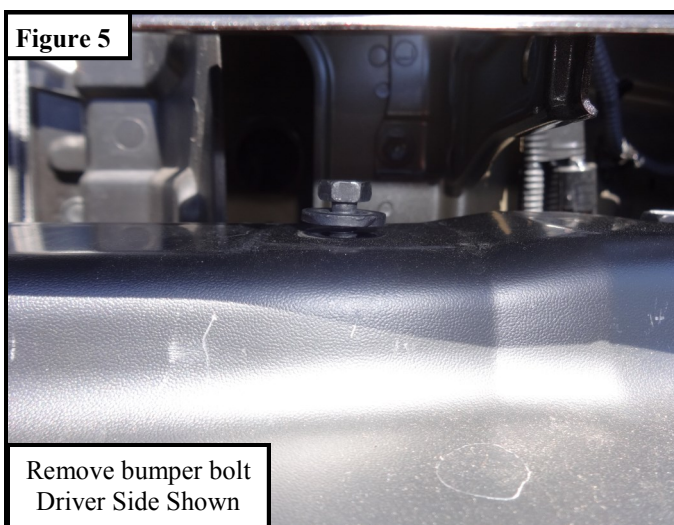

Figure 5
7. Locate the factory bolts on the top of the bumper and remove them with the 10mm wrench. FIGURE 5